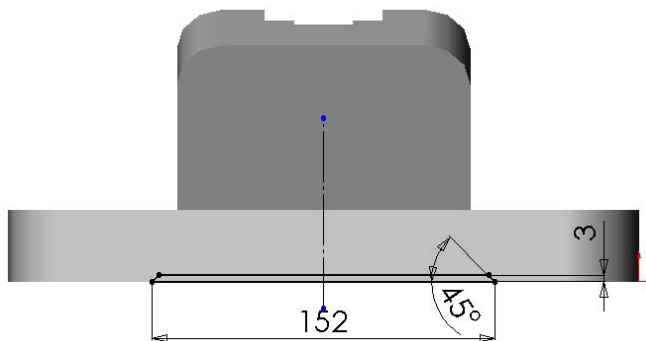

Figure 16 Bottom slot sketch
17. Select **Dimension**  on the Sketch Relation toolbar, and dimension the sketch as shown in Figure 16. The sketch will be fully constrained. If not, apply more constraints.